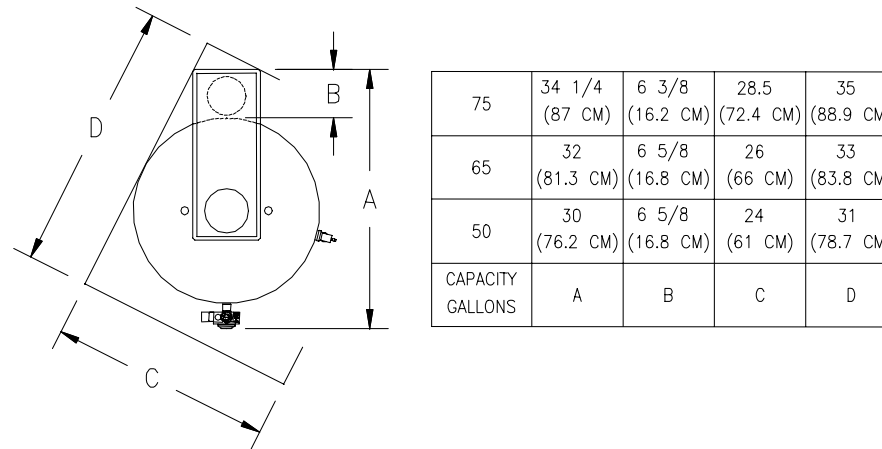

Figure 1B.
This installation shall allow access to the front of the water heater and adequate clearance shall be provided for servicing and operating this water heater. The water heater may be installed on either a combustible or non-combustible floor. If the water heater is to be installed directly on carpeting, it shall be installed on top of a metal or wood panel extending beyond the full width and depth of the appliance by at least three (3) inches (7.6 cm) in any direction or, if the appliance is to be installed in an alcove or closet, the entire floor shall be covered by the panel. The minimum clearances to combustibles for this water heater is: zero (0) inch (0 cm) from the sides and rear, four (4) inches (10.2 cm) from the front of the jacket, zero (0) inch (0 cm) from the plenum, zero (0) inch (0 cm) from the air intake elbow and telescopic tubes and twelve (12) inches (30.5 cm) from the direct vent-air intake terminal. (See Figure 1). Refer to figure 1B for front to back dimensions of the water heater for installations in a closet.